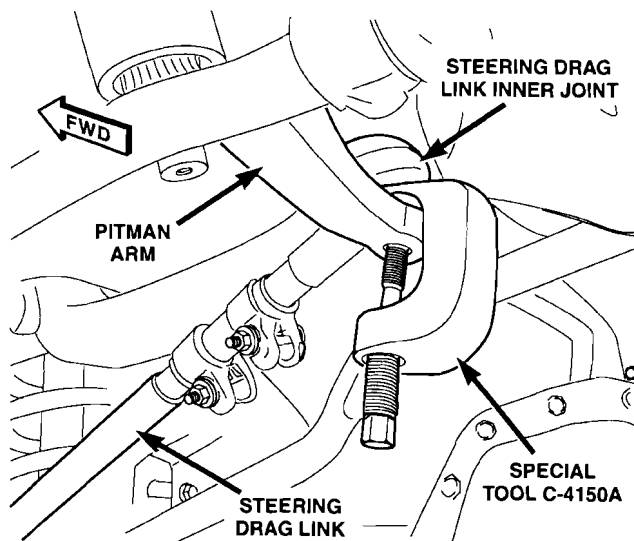

Figure 4
c. Using special tool C-4150A, separate the steering drag link inner joint from the pitman arm (Figure 4).